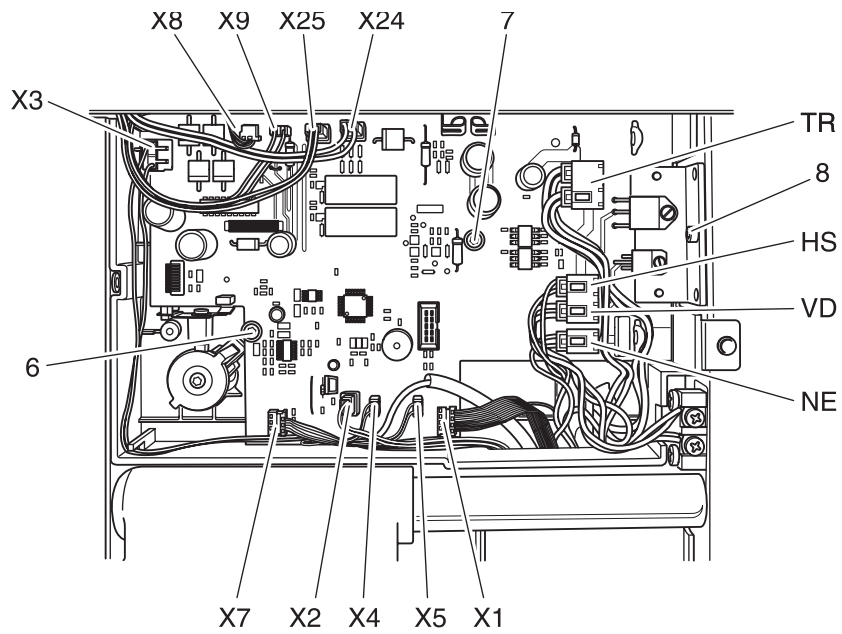

Fig. 15c
- Disconnect the plugs that are shown in fig. 15c (flat plugs/connector plugs) from circuit board.